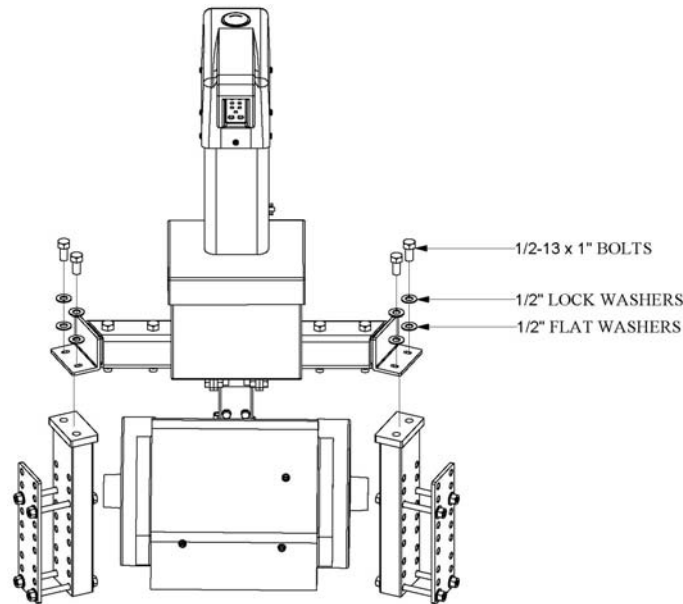

Fig. 1.31
- c. With the help of an assistant, steady the unit and remove the four (4) ½ X 1-inch bolts that secure the outer support arms to the support rails. Refer to Fig. 1.31.
9. Tighten the four (4) gearmotor retaining bolts to 100 in. lbs. Recheck the drive chain tension.
- a. Lift the unit by the support arms and place it over the support rails, align the boltholes, and secure with the original bolts, lock washers, and flat washers. Tighten to 70 ft. lbs. Refer to Fig. 1.31.